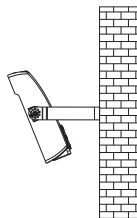

figure 3.4
Step 3: Loosen screw; Adjust the flood to desired position and tighten screws. (figure 3.4),